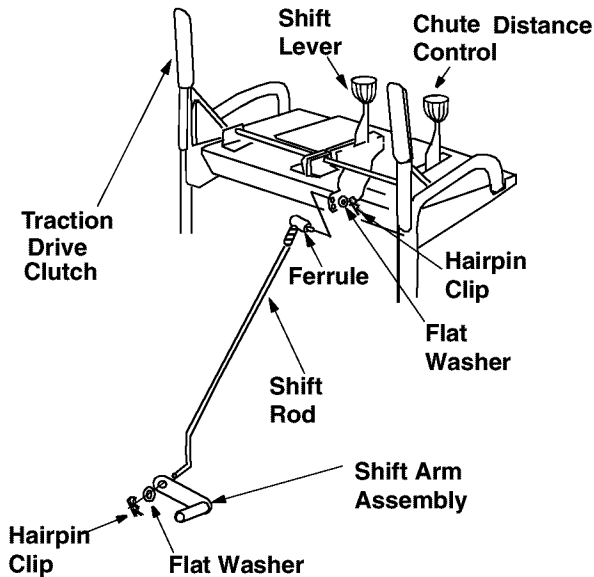

Figure 10
- Place the shift lever in the sixth (6) speed.
- Place the bent end of the shift rod into the hole in the shift arm assembly. See Figure 10. Secure with flat washer and hairpin clip from group E of the hardware pack.
- Once the ferrule slides into the hole, turn it counter-clockwise one more full turn and insert it in the hole in the shift lever. See Figure 10.
- Secure the ferrule to the shift lever with another flat washer and hairpin clip from same group. See Figure 10.